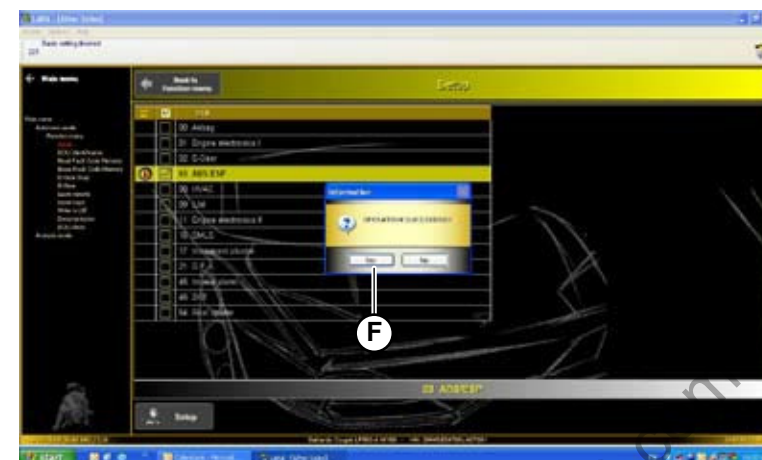

Fig.69
- Press YES (**F-Fig.69**) to end the setup procedure: The green tick indicates that the operation has been carried out successfully.